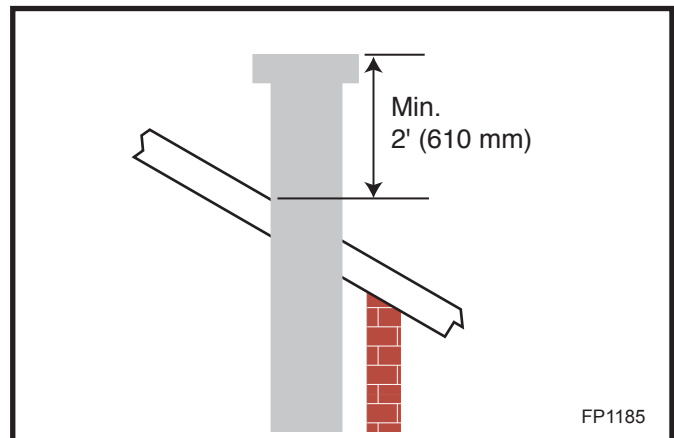

Fig. 41 Minimum termination to roof clearance.
10. Add additional vent lengths for proper height. (Fig 41)